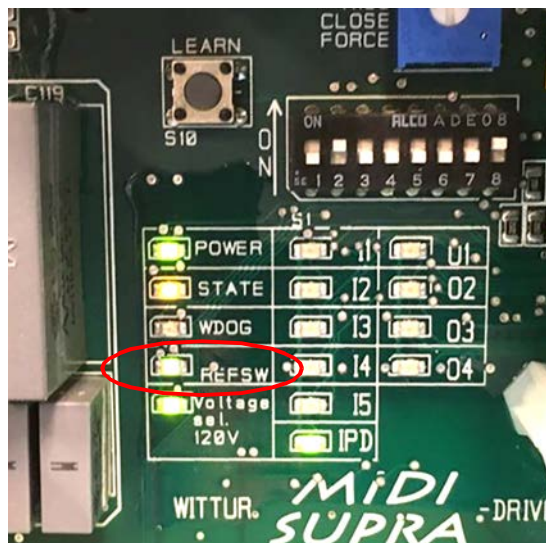

Figure 35 - Activated REFRSW (reference switch) LED
6. Verify that the REFRSW (reference switch) LED activates approximately $\frac{1}{2}$ " before the door is closed. See Figure 35.